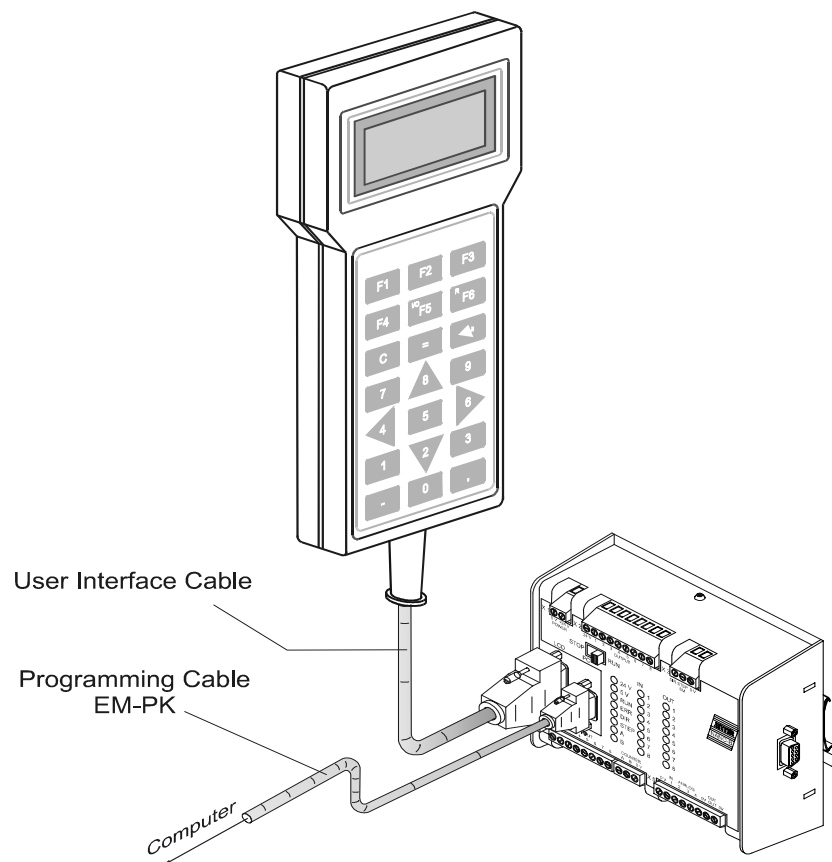

Fig. 2: Example: Connection of LCD 52 with PROCESS-PLC NANO-B
- Establish a permanent connection from the LCD 52 to the PROCESS-PLC with the user interface cable DK-422, see Fig. 2, page 12.